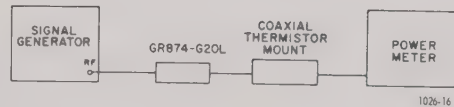

Figure 5-2. Test-equipment interconnections for carrier-level check.
- Connect test equipment as shown in Figure 5-2.